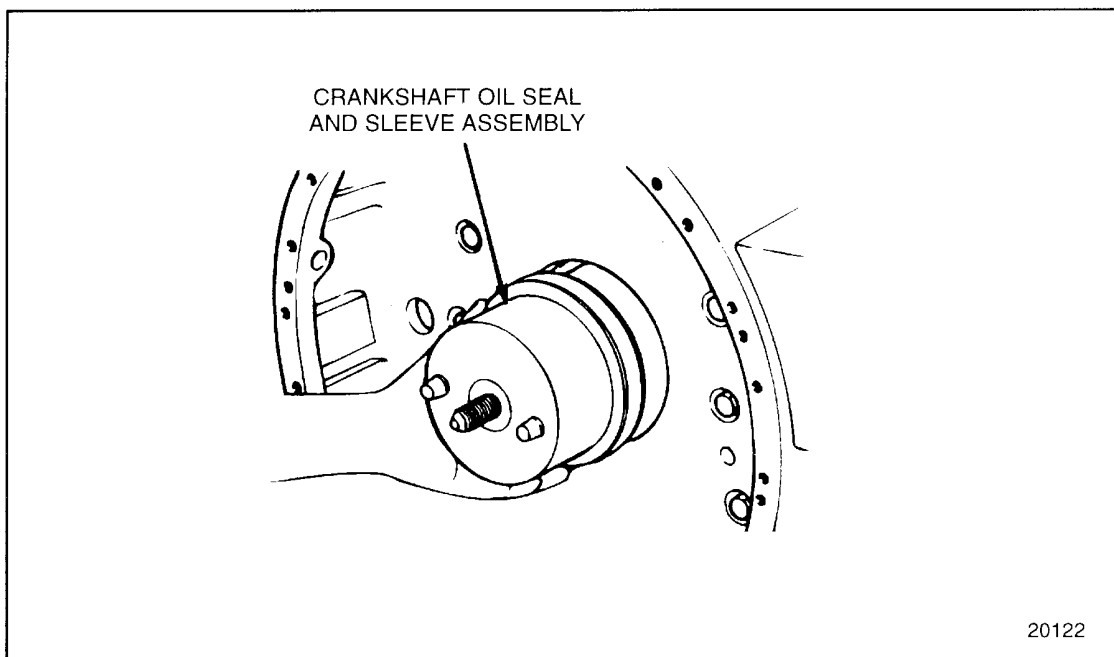

Figure 1-134 Rear Oil Seal and Sleeve Installation
3. Install the rear housing and adapter ring with seal and sleeve assembly in place on the guide studs. See Figure 1-134.